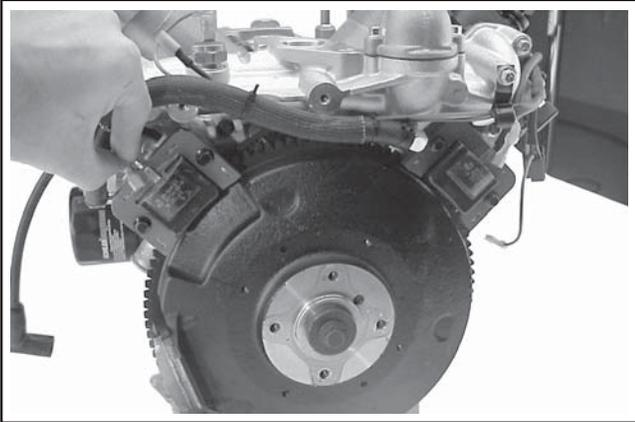

Figure 9-36. Removing Kill Leads from Ignition Modules.
1. Disconnect the kill leads from the ignition modules. See Figure 9-36.